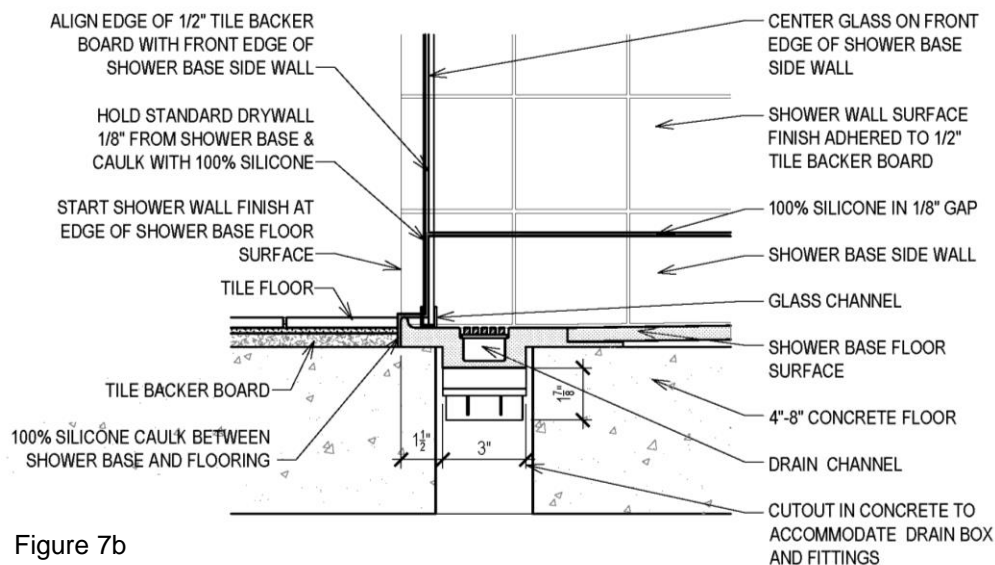

Figure 7b
- Joint between base front and flooring must be caulked with 100% silicone, NOT grouted. See Figure 7b.
- Shower door and glass panels should be mounted at the front of the drain, centered between drain opening and front of shower base. See Figure 7b. Do NOT mount glass channels to shower base with screws. Use 100% silicone to mount glass channels.